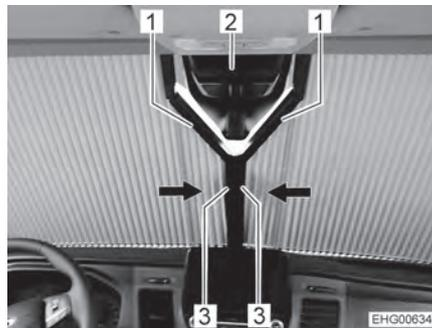

Fig. 27 Windscreen with folding blinds
- Pull both folding blinds of the windscreen by the handle (Fig. 27,3) to the centre (as far as they will go). Magnetic catches keep the folding blinds closed.
- Push both folding blinds of the windscreen outwards by the handle (Fig. 27,3) until the holding bar (Fig. 27,1) engages completely in its holder.
The shade of the windscreen has a y-shaped cut-out for the rain sensor (Fig. 27,2) of the vehicle.